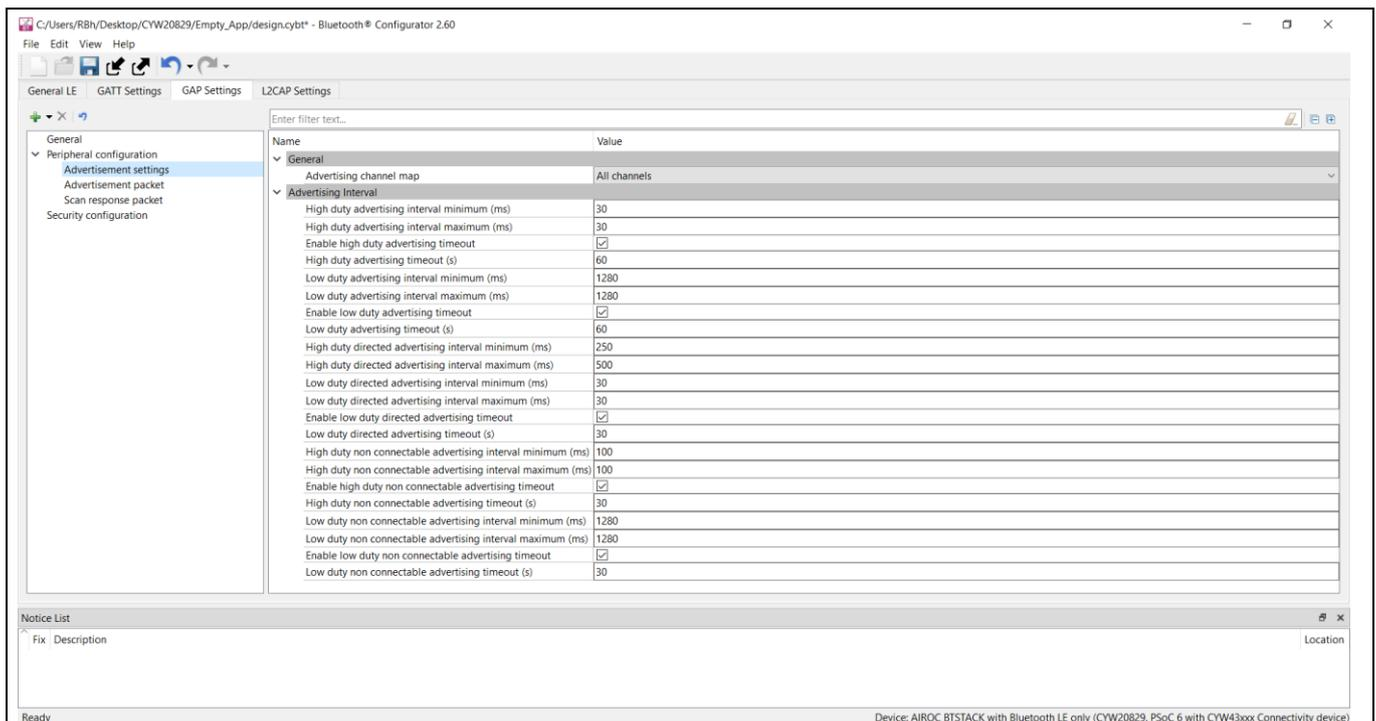

Figure 25 GAP advertisement settings
- Click the **Advertisement settings** item in the left menu. Default values work for this application (see Figure 25). It uses a high-duty advertising interval of 30 ms and a low-duty advertising interval of 60 ms. High-duty advertising allows quick discovery and connection but consumes more power because of increased RF advertisement packets.